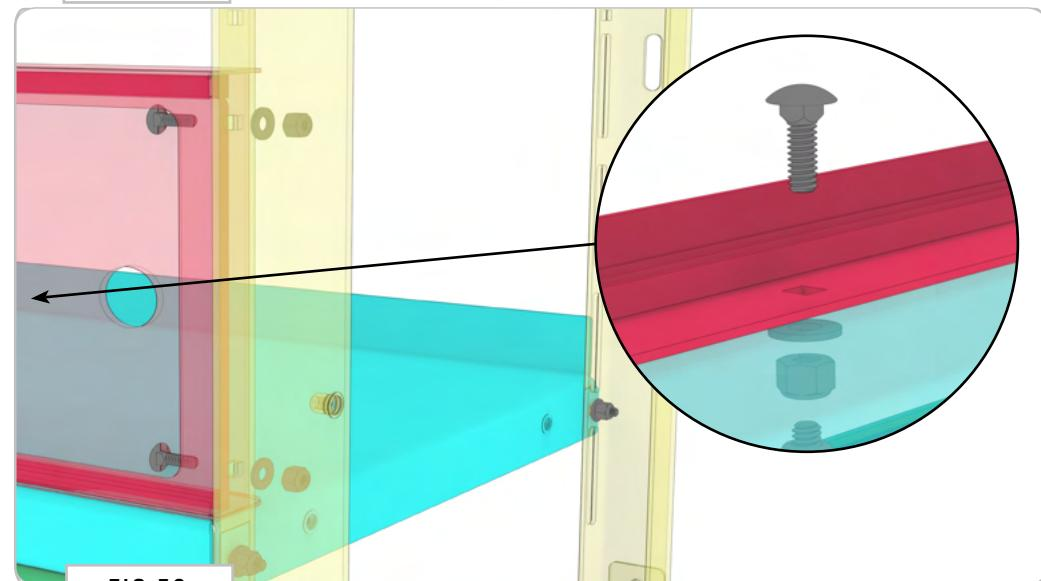

FIG 50
Attach your selection of **Lower Doors** to the **Left and Right Side Cabinet Ends** using **(4) 1/4-20 Square Neck Carriage Bolts, Flat Washers and Nylon Locknuts** (FIG 50). There's a final mounting location in the middle of the unit that will take **(1) 1/4-20 x 0.75 Square Neck Carriage Bolt, Flat Washer and Nylon Locknut** to finish out this step (FIG 50).